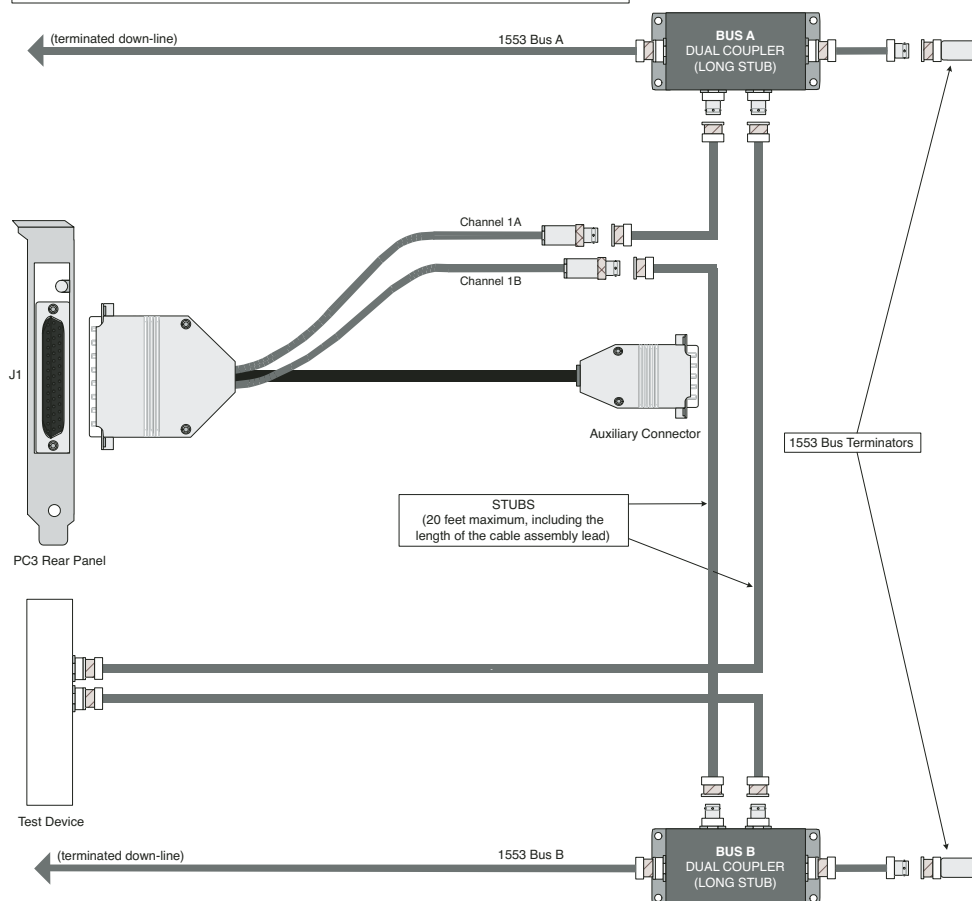

Figure 7.0.1: Connecting the PC3 to a 1553 Bus
2. Attach the Bus A cable to the stub connector on an appropriate transformer-coupled device (see Figure 7.0.1).
3. Attach the Bus B cable to the stub connector on an appropriate transformer-coupled device (see Figure 7.0.1).